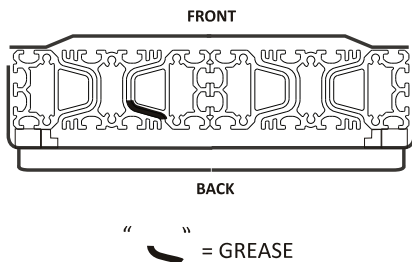

Figure 7-3
3. Apply grease to the tower on the passenger side inner rail. *See Figures 7-3 and 7-4.*